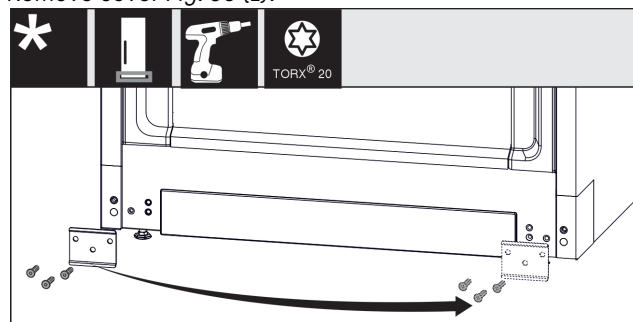

Fig. 31
- ▶ Unscrew the plate Fig. 31 (1), move it to the other side and screw it back on.
- ▶ Place the swap bearing block on the other side and use a screwdriver to screw it on. Start with the screw (2) at the bottom in the middle.
- ▶ Tighten screw (3) and screw (4).
- ▶ Insert the bearing bolt (5) completely. Ensure that the latching cam is pointing towards the rear.